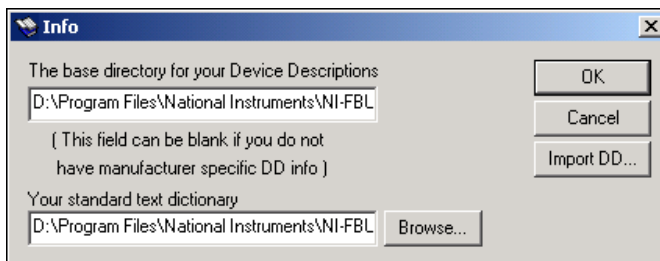

Figure 2-3. DD Info Dialog Box
- Click the **DD Info** button. The DD Info dialog box appears as shown in Figure 2-3.